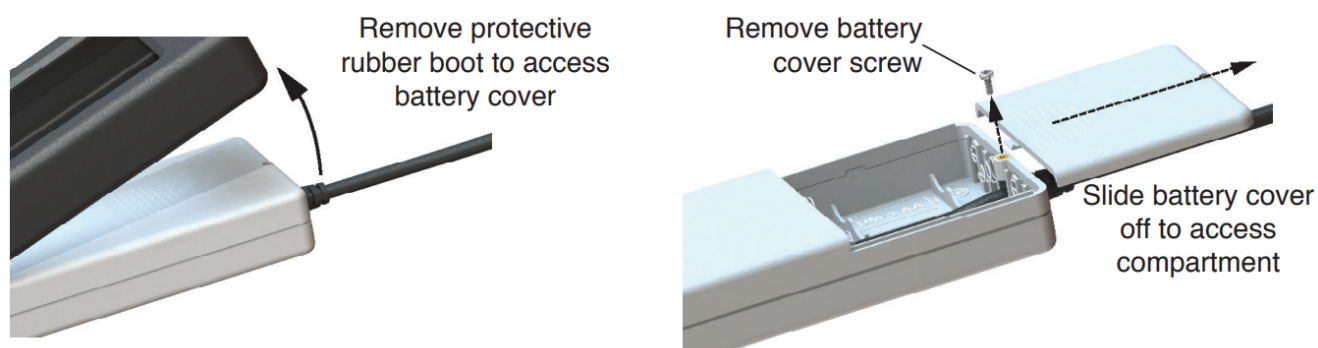

Figure 4.1 Insert Batteries
Step 1. First insert the four AA batteries into the probe as shown in figure 4.1.